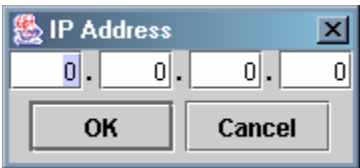

Figure 60 SANsurfer iSCSI HBA Manager, Target Settings, IP Address dialog
- ◆ To add your target, click the green + on the right side of the **Target Settings** tab to get the **IP Address** dialog, as shown in Figure 60. Enter the IP address of your target port, and click **OK**.